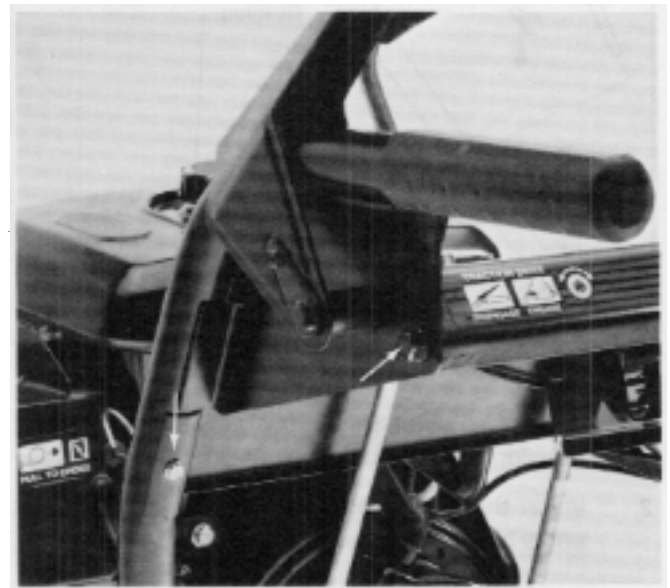

Figure 115
8. Remove the flanged head capscrew and small self-tapping screw securing the left handle to the control panel. See Figure 115.